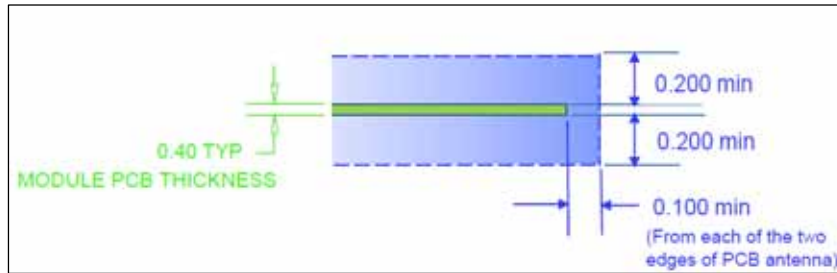

Figure 6-4 Recommended clearance above and below the PCB trace antenna
- The onboard antenna keep out area, as shown in Figure 6-3, must be adhered to. In addition it is recommended to have clearance above and below the PCB trace antenna (Figure 6-4) for optimal range performance.
- Recommendation is to keep plastic enclosure clearance of 1cm from top and bottom of the DFZM-E72xx onboard antenna keep-out area, if possible. 5-mm (0.2 in) clearance shall be the minimum as shown in Figure 6-4.